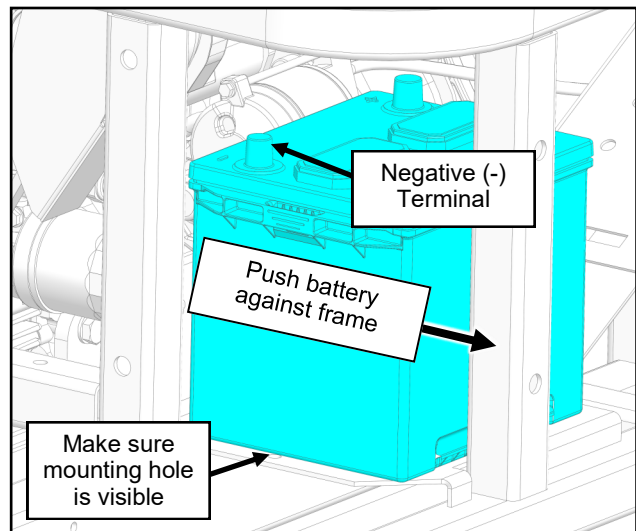

Fig. 2.1 (Re-Install Battery, Rotated 90 deg.)
- 2.1 Place factory battery back onto battery mounting bracket as shown in figure 2.1